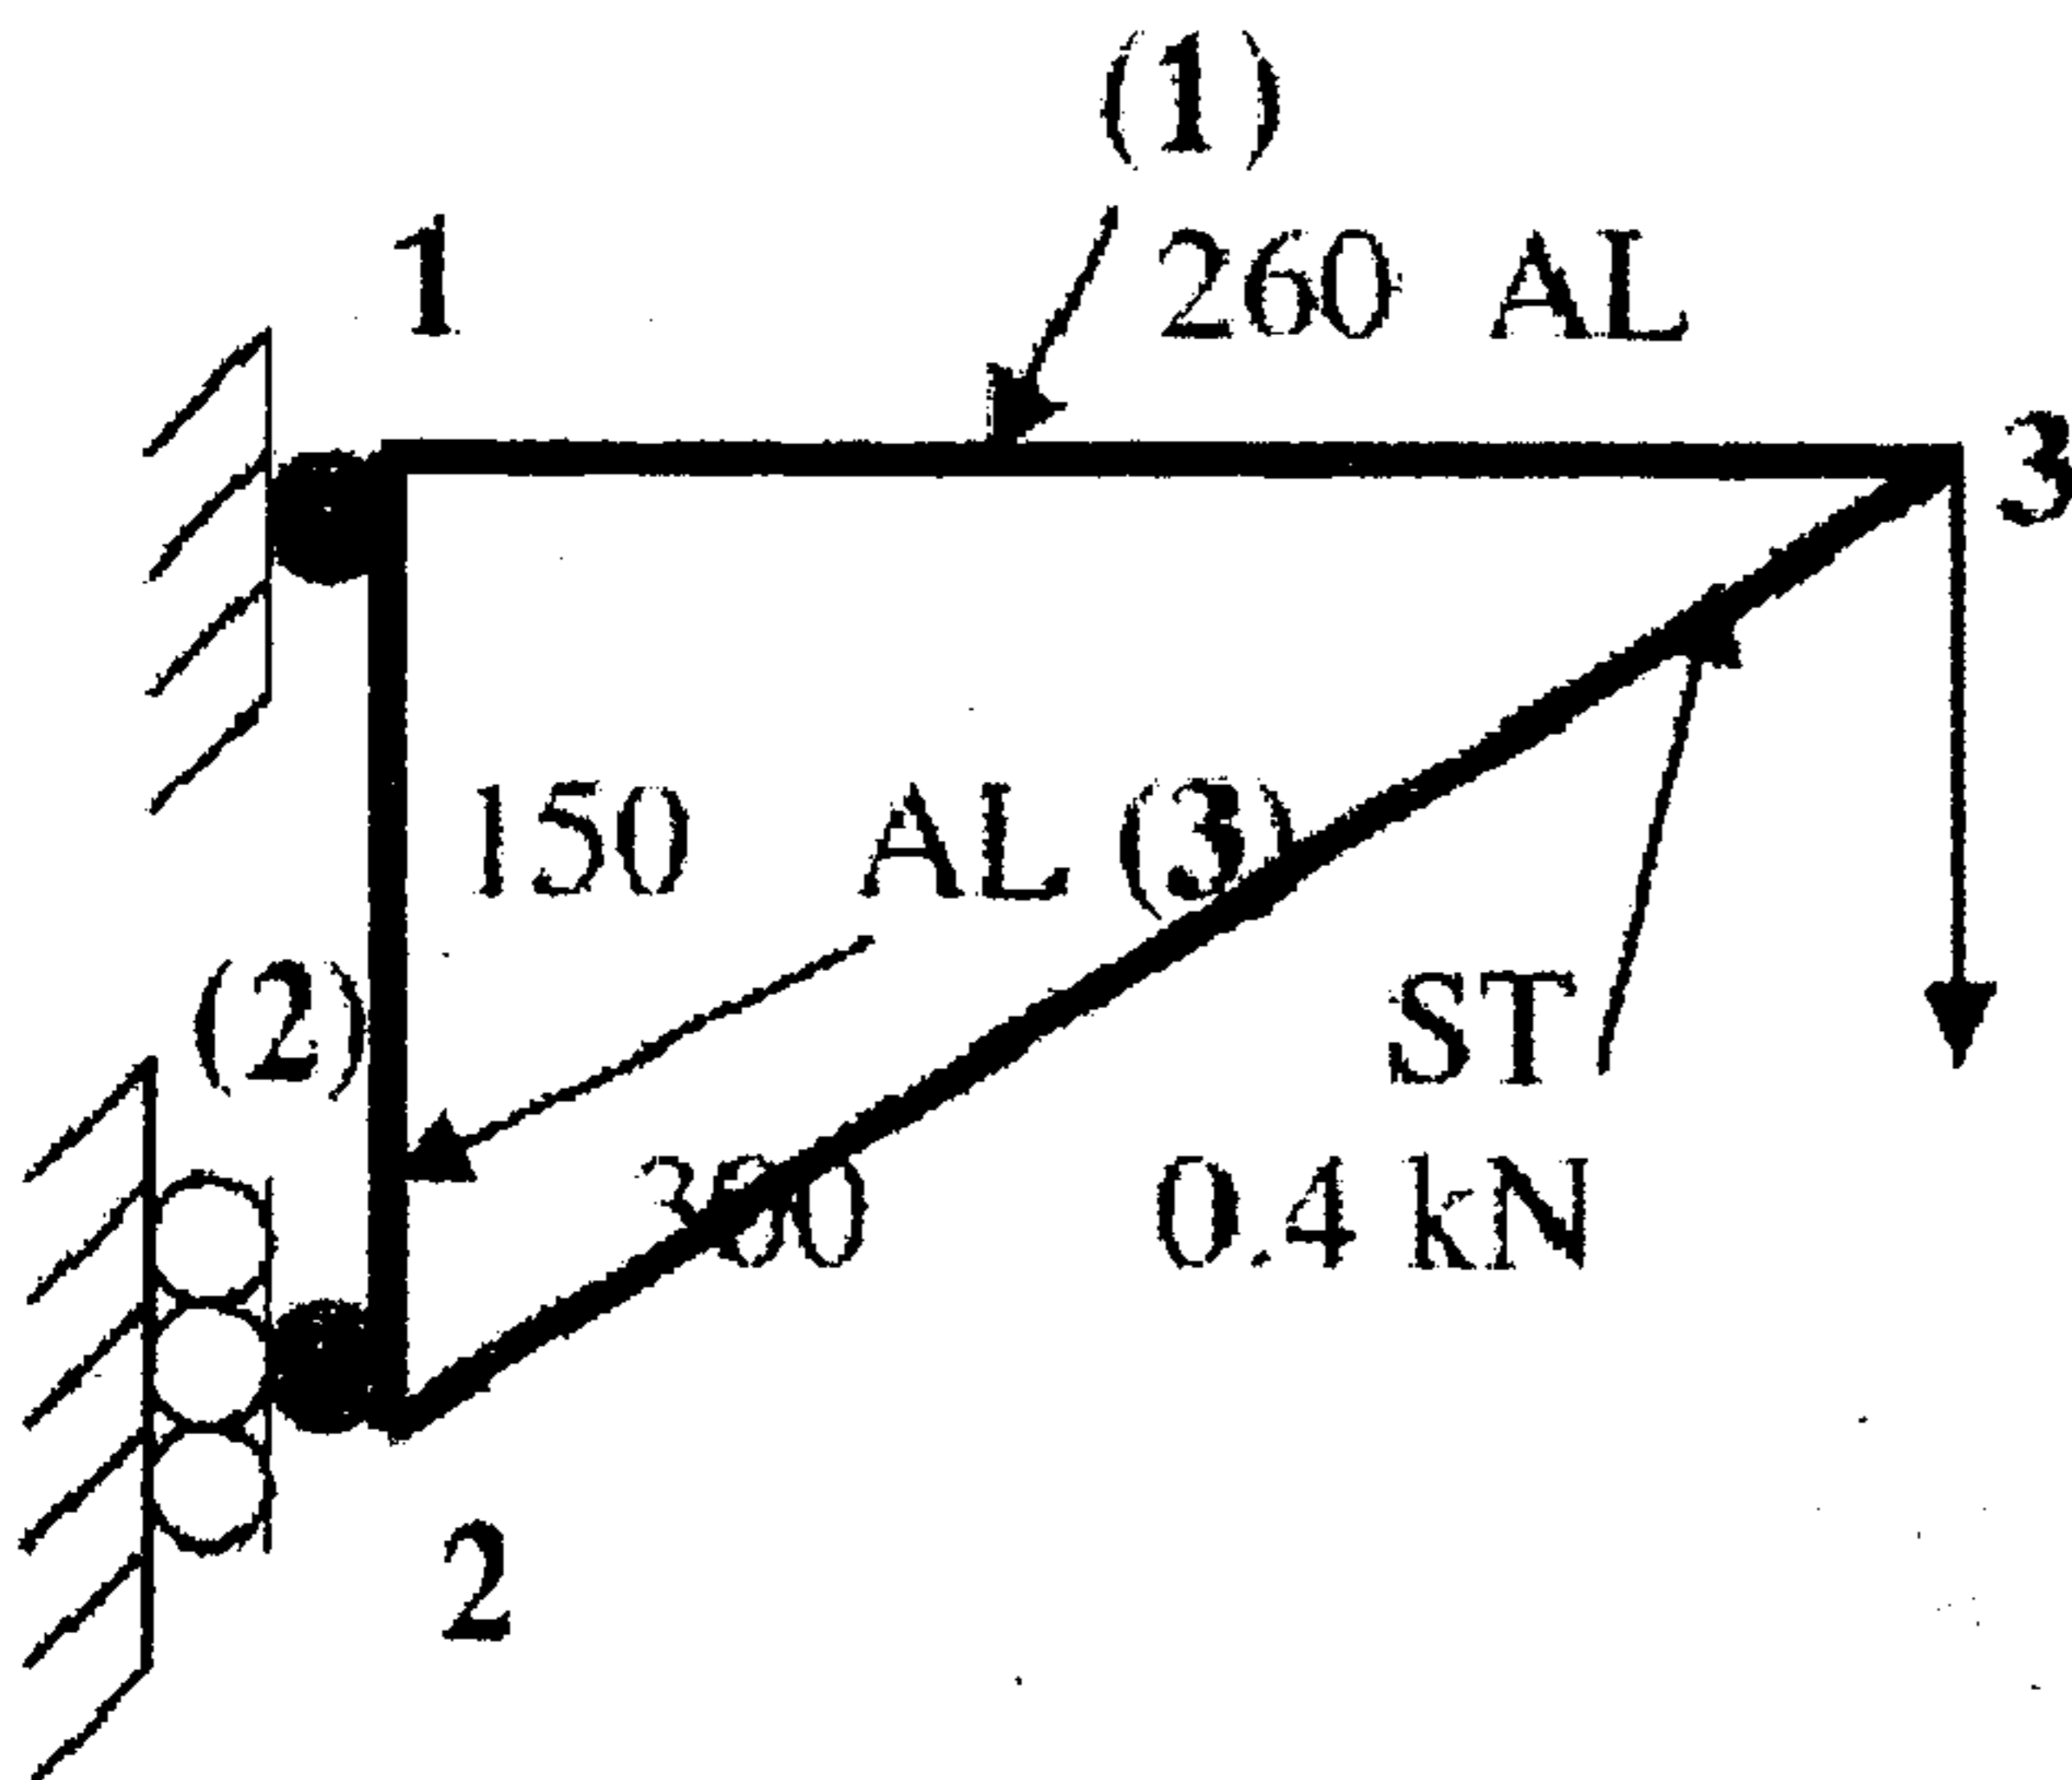

Fig. 1
18. For the truss shown in figure 1, Determine i) The displacement of joints 2 and 3